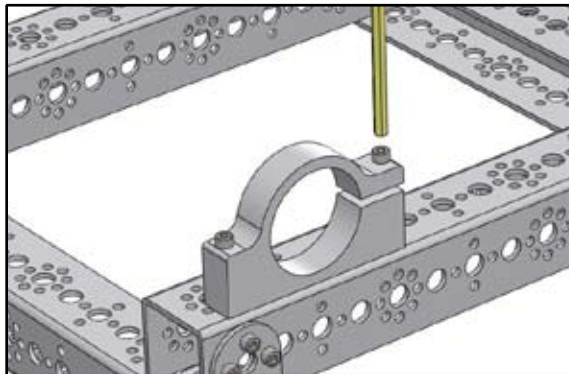

Figure A15
- 1) Set a motor mount on one bottom piece of channel. Determine where you want the motor to rest (Figure A15). Note that the motor mount holes align with the smaller holes on the channel.